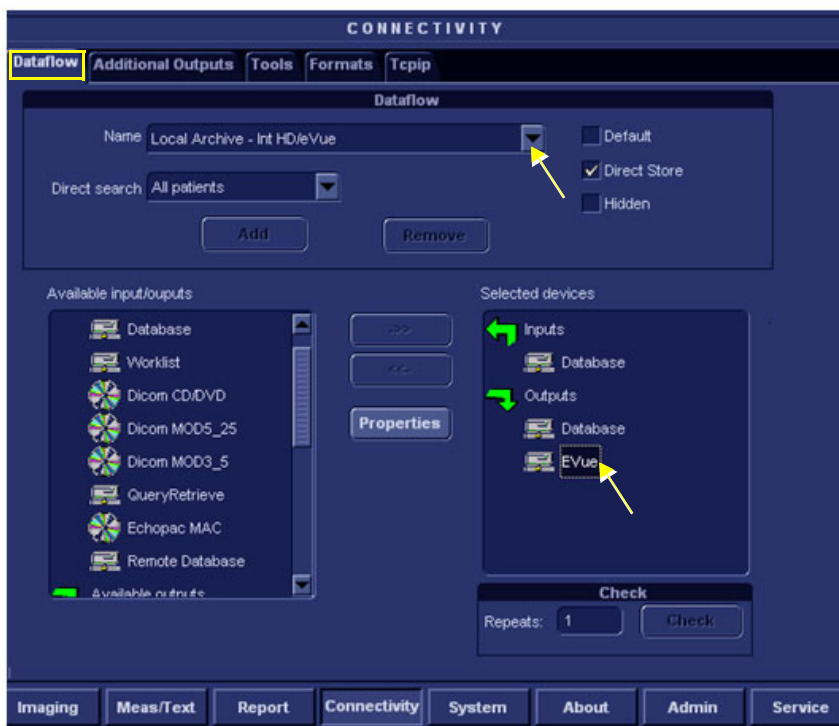

Figure 3-147 Connectivity - Dataflow Tab Selected
- 5.) Select the **Dataflow** Tab, as shown in Figure 3-147 on page 3-141.
- 8.) Trackball to the *Selected devices* window and select (highlight) **eVue** (see Figure 3-147).